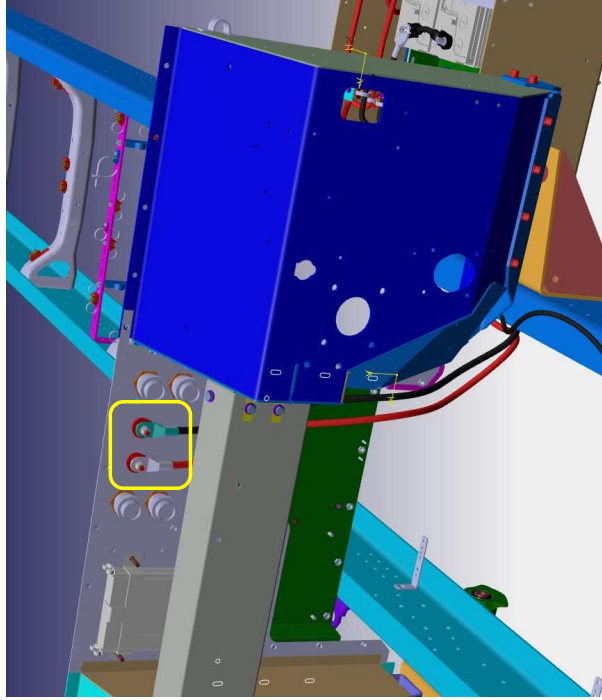

Figure 1
2. Replace both positive and negative DCM pass through studs. (See Figure 1 & 2)